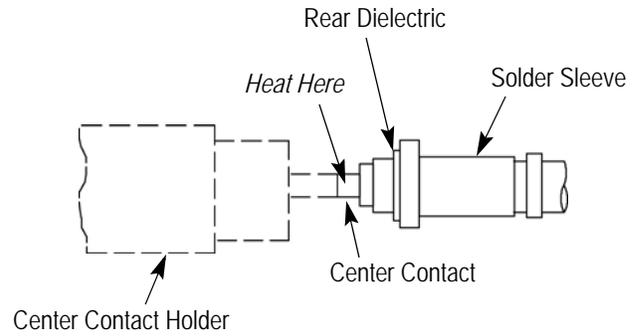

Figure 5
2. Place rear dielectric onto cable inner conductor as shown in Figure 5.